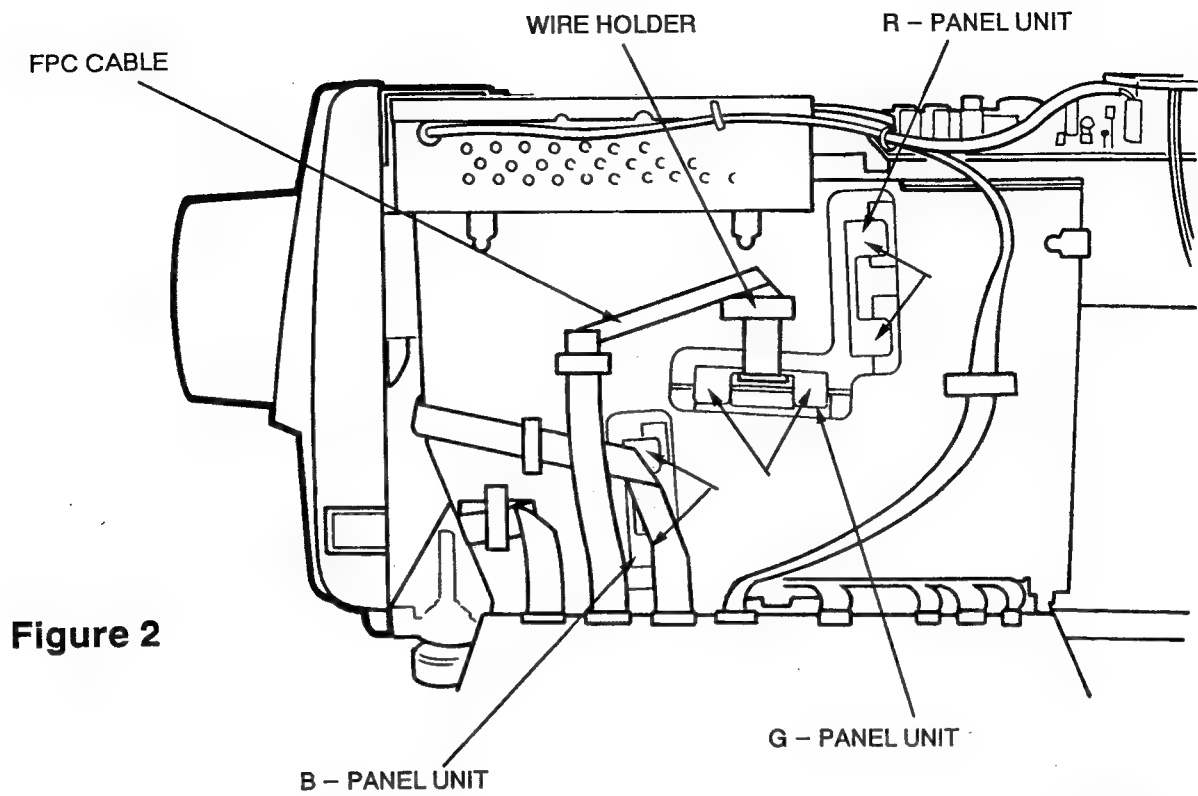
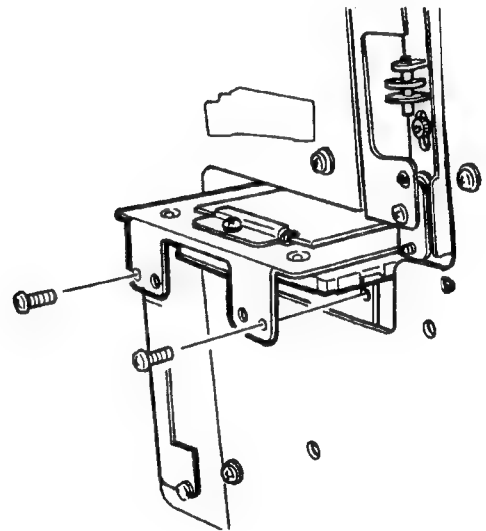

Figure 2
Figure 3
3. Remove the two screws from the panel to be replaced on the opposite side of the set as that shown in Fig.1. (Refer to Fig.2 and Fig.3)
4. Pull the LCD panel out from the set. (Refer to Fig.3)